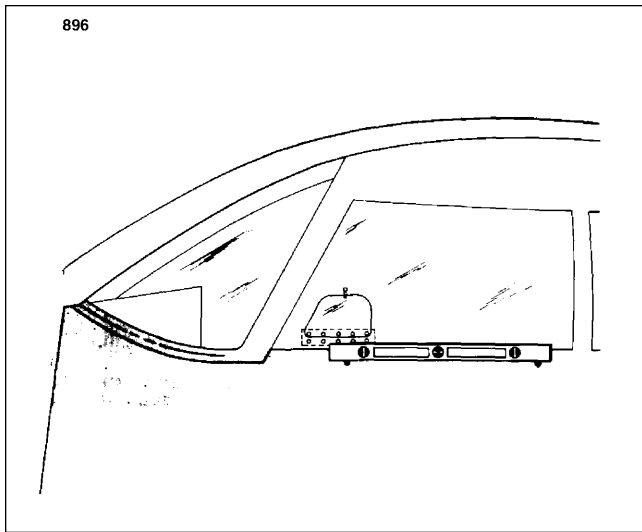

Figure 2-6. Leveling Longitudinally
- b. To longitudinally level the airplane, partially withdraw the two leveling screws located immediately below the left front side window. (Refer to Figure 2-6.) Place a level on these screw heads and adjust the jacks until the level is centered. Should the airplane be either on scales or on the floor, first block the main gear oleos to full extension; then deflate the nose wheel until the proper position is reached.